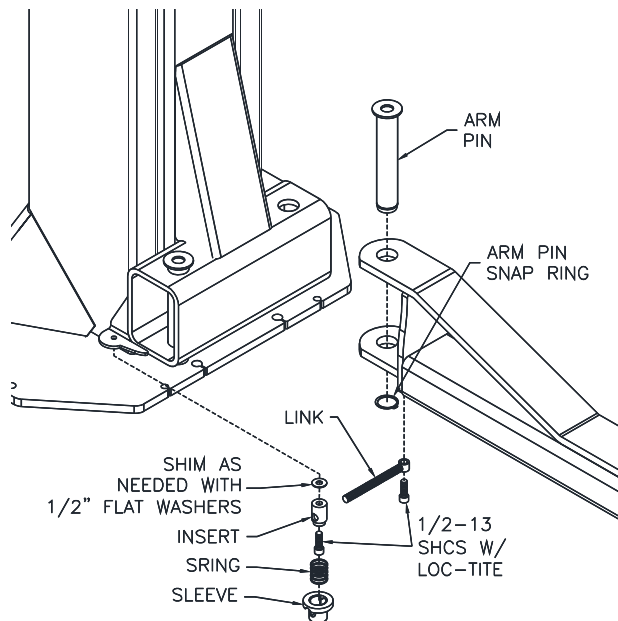

Fig. 19 – Arm Installation
- 60) Install the Arm Restraints with the 1/2"-13 Socket Head Cap Screws. Ensure that the arm restraint threads engage and disengage properly. Arm restraints should disengage when lift is fully lowered (**Fig 19**).